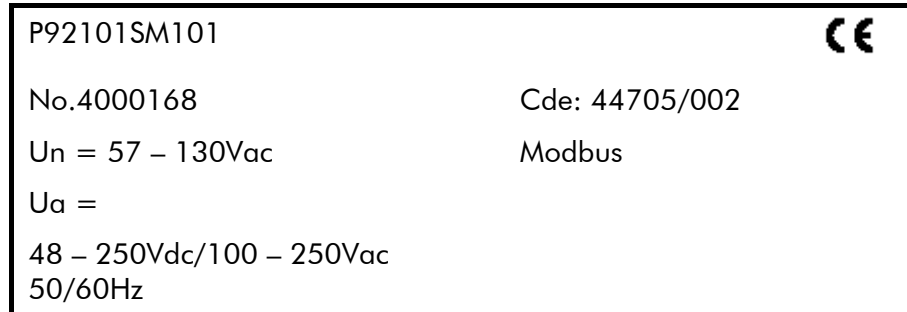

FIGURE 3: TECHNICAL INFORMATION
- a 7-key keypad comprising 4 arrow keys (⬅, ⬆, ⬇, ⬅), an enter key (⏎), a clear key (C), and a read key (R).
- the relay serial number, and the relay's voltage rating information (see figure 3 in this chapter).